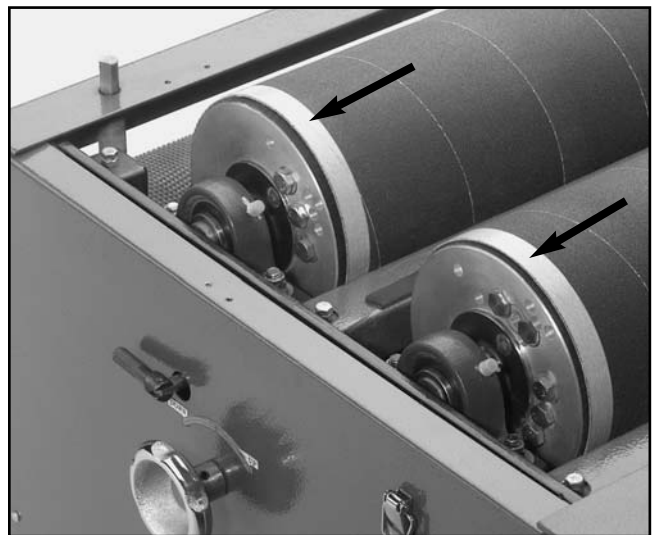

Figure 15. Sandpaper ends taped on Model G1066Z.
6. Tape both ends with 3/4" strapping tape, making at least two complete passes so that the second layer is directly on top of the first. See **Figure 15**. Repeat **steps 3-5** with the other drum.